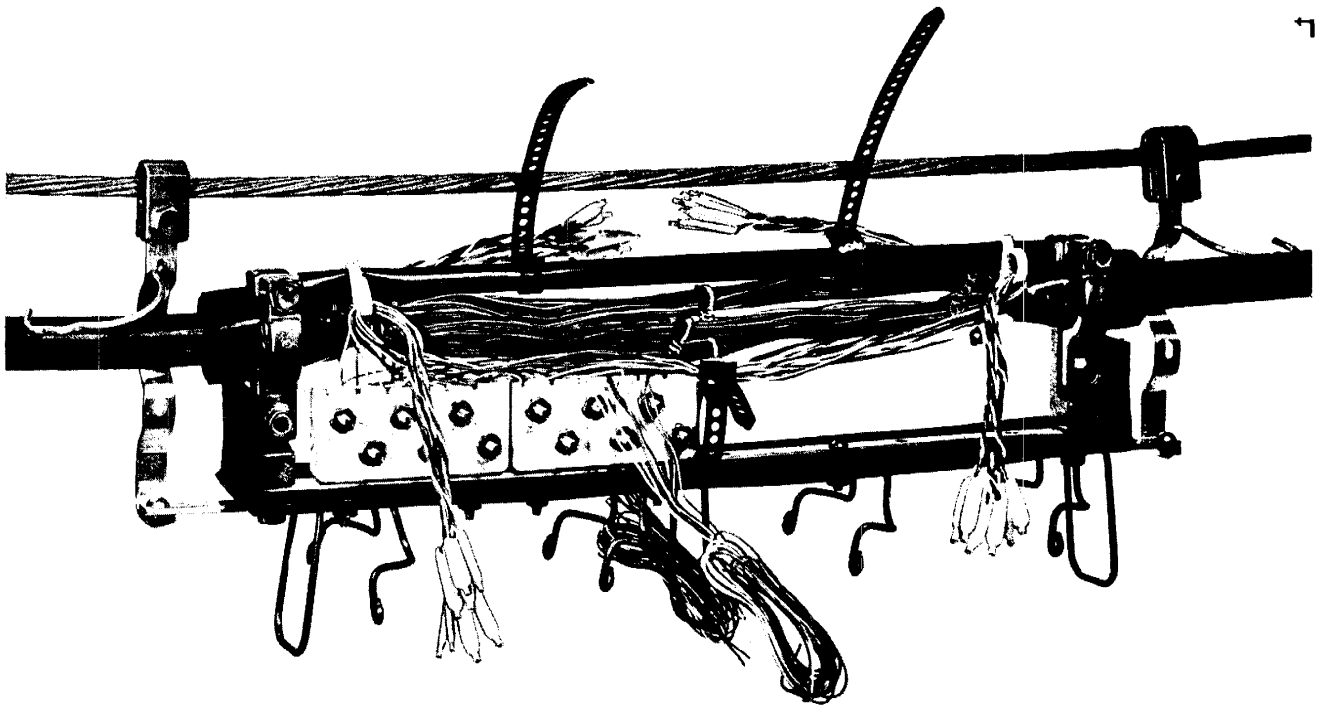

Fig. 9 – Eight Cable Pairs Terminated
5.06 Fig. 9 illustrates *eight* cable pairs terminated. Note the ease of gaining access to the unterminated cable pairs.